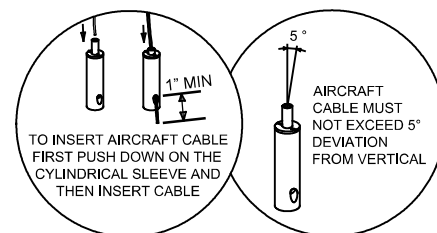

Fig. 3
4. Lift the fixture and attach the loose ends of the three aircraft cables to the cable gliders (Fig. 3).